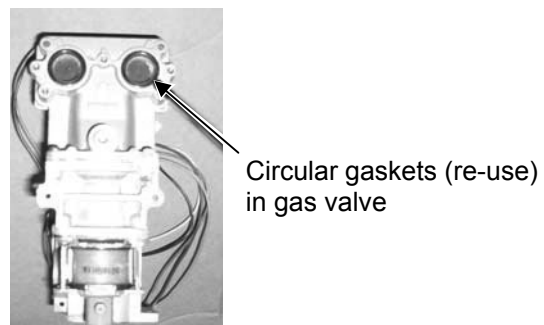

Figure 5
13. Install the gas manifold using 2 new packings (included in kit) between the manifold and the heat exchanger. Replace the two circular gaskets (included in kit) in the gas valve (Figure 5).